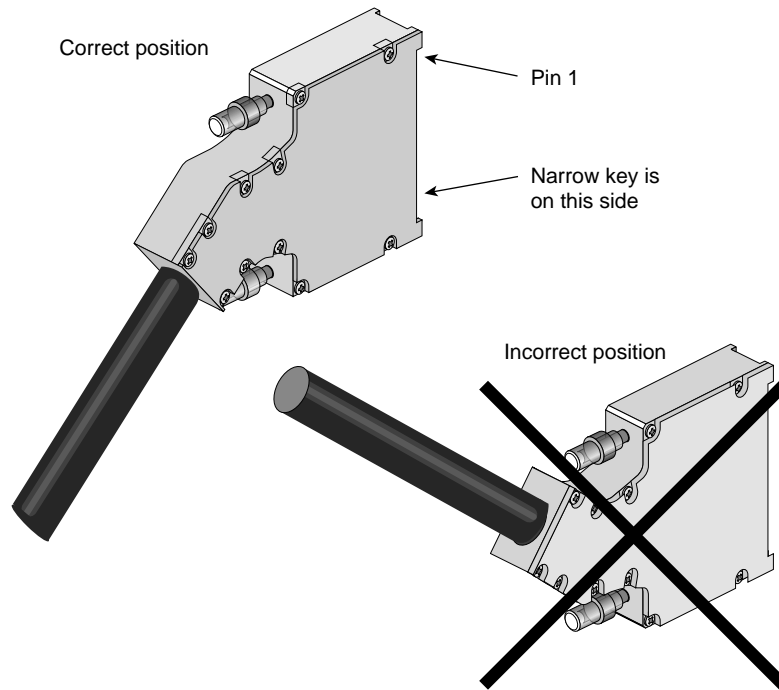
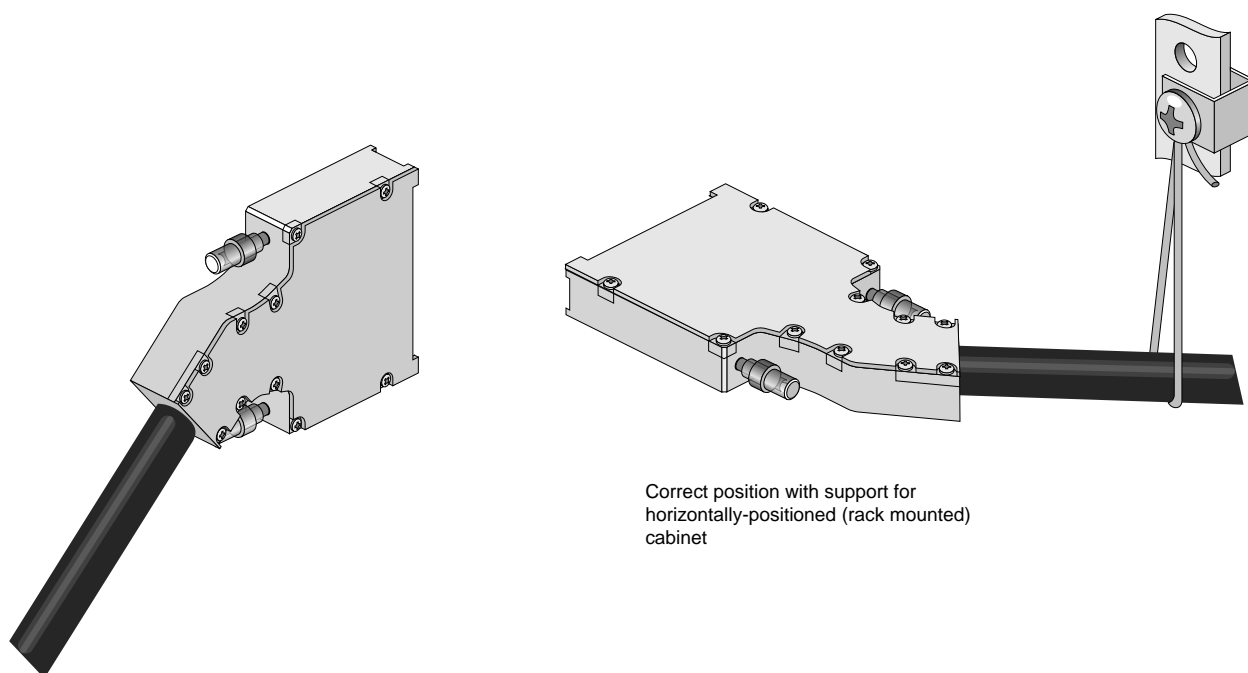

Figure 2-4 GSN Cable Connector for Origin 2000 and Onyx2 Modules
Figure 2-5 GSN Cable Connectors for Horizontally-Positioned Cabinet
- Some GSN cable connectors are designed with an angle to relieve strain. This style of connector must face downward (as illustrated in Figure 2-4) or sideways (as illustrated in Figure 2-5). If proper alignment of the key results in the cable facing upward, you need to locate a GSN cable with a different angle built into its connector.